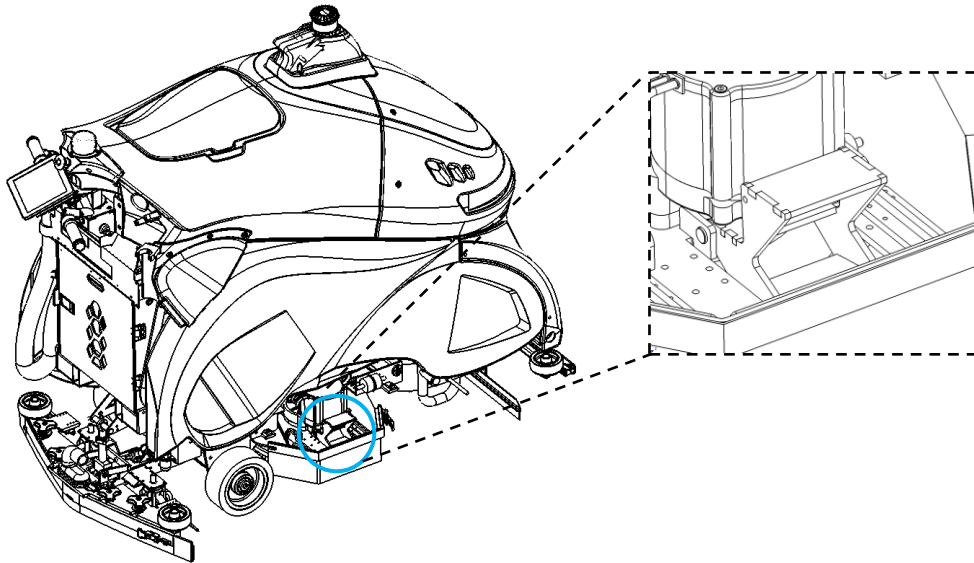

Fig. 1
1. Step on the pedal to release the brush from the magnetic clutches (Fig. 1).